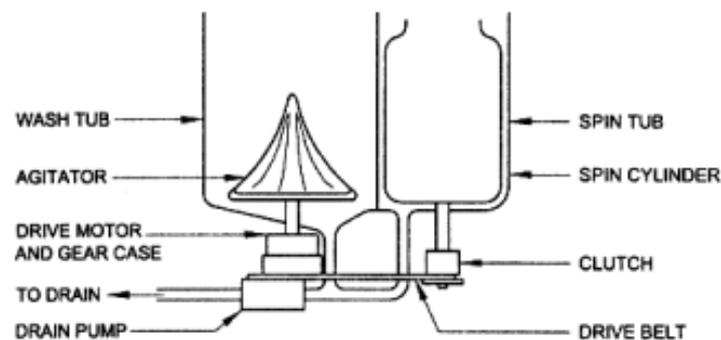

Fig. 12.8 - Twin tubs of semi-automatic washing machine
**Working of semi-automatic washing machine:** The semi-automatic type washing machines are relatively simple in operation and construction. It consists of two separate tubs names as wash tub and spin tub as shown in Fig.12.8. The washing cycle in such a type of machine would consist of the user filling the wash tub with water upto the required water level. The water level can be set, according to quantity of cloths, using water level selector. Soap and bleach are to be added. Depending upon the types of the clothes to be washed, the 'ON' time or wash time of the machine is to set and the machine is switched 'ON'. Most machines have the agitator directly driven with out any intermediate gears as shown in Fig. 12.8.